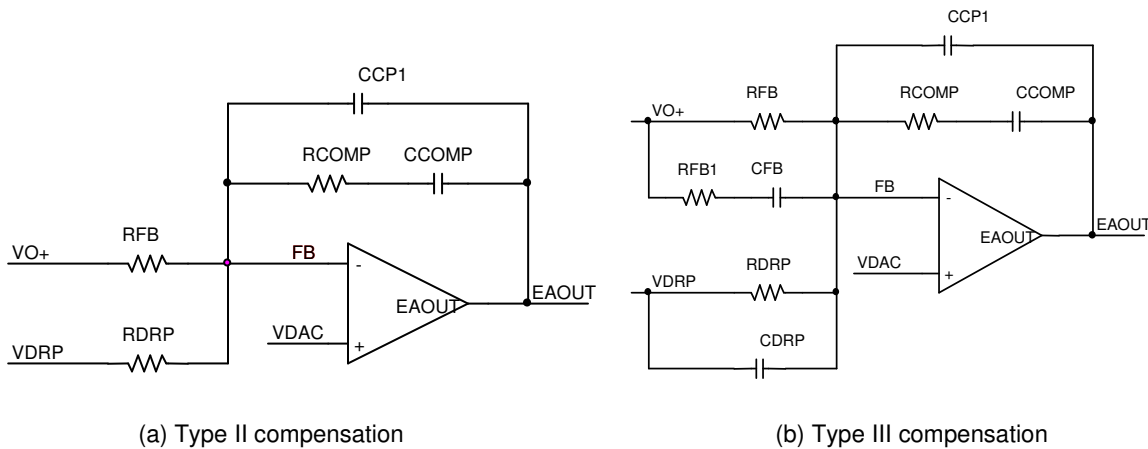

Figure 11 . Voltage loop compensation network
Resistors RFB and RDRP are chosen according to Equations (12) and (13), and the selection of compensation types depends on the capacitors used. For the applications using Electrolytic, Polymer or AL-Polymer capacitors, type II compensation shown in Figure 11 (a) is usually enough. While for the applications with only low ESR ceramic capacitors, type III compensation shown in Figure 11 (b) is preferred.